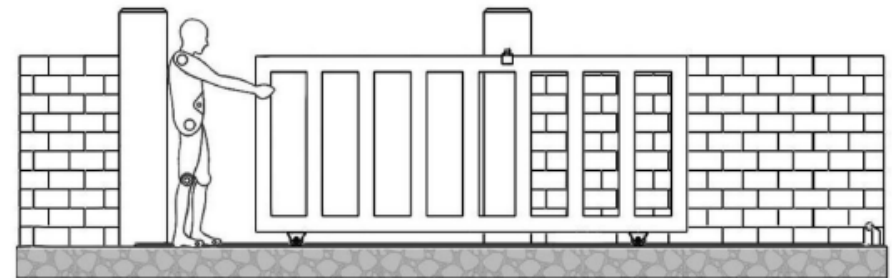

Fig 8
- Be sure that the opener is installed in a level and paralleled position and is properly secured and the gate can be moved smoothly push or pull by hand before installing motor(Fig 8)